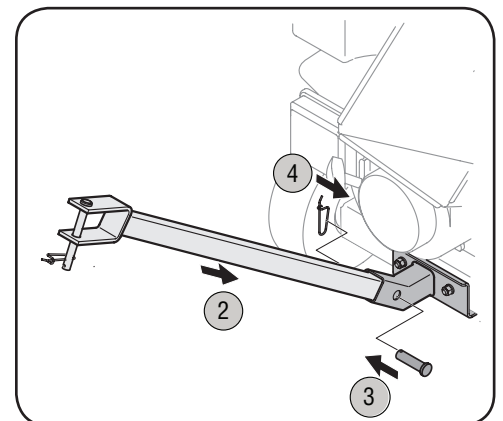

Figure 2-4
2. Insert the tow bar into the receiver. See Figure 2-4.
3. Reinsert the clevis pin through aligning holes in both the tow bar and the receiver. See Figure 2-4.
4. Fasten with the spring pin to secure. See Figure 2-4.